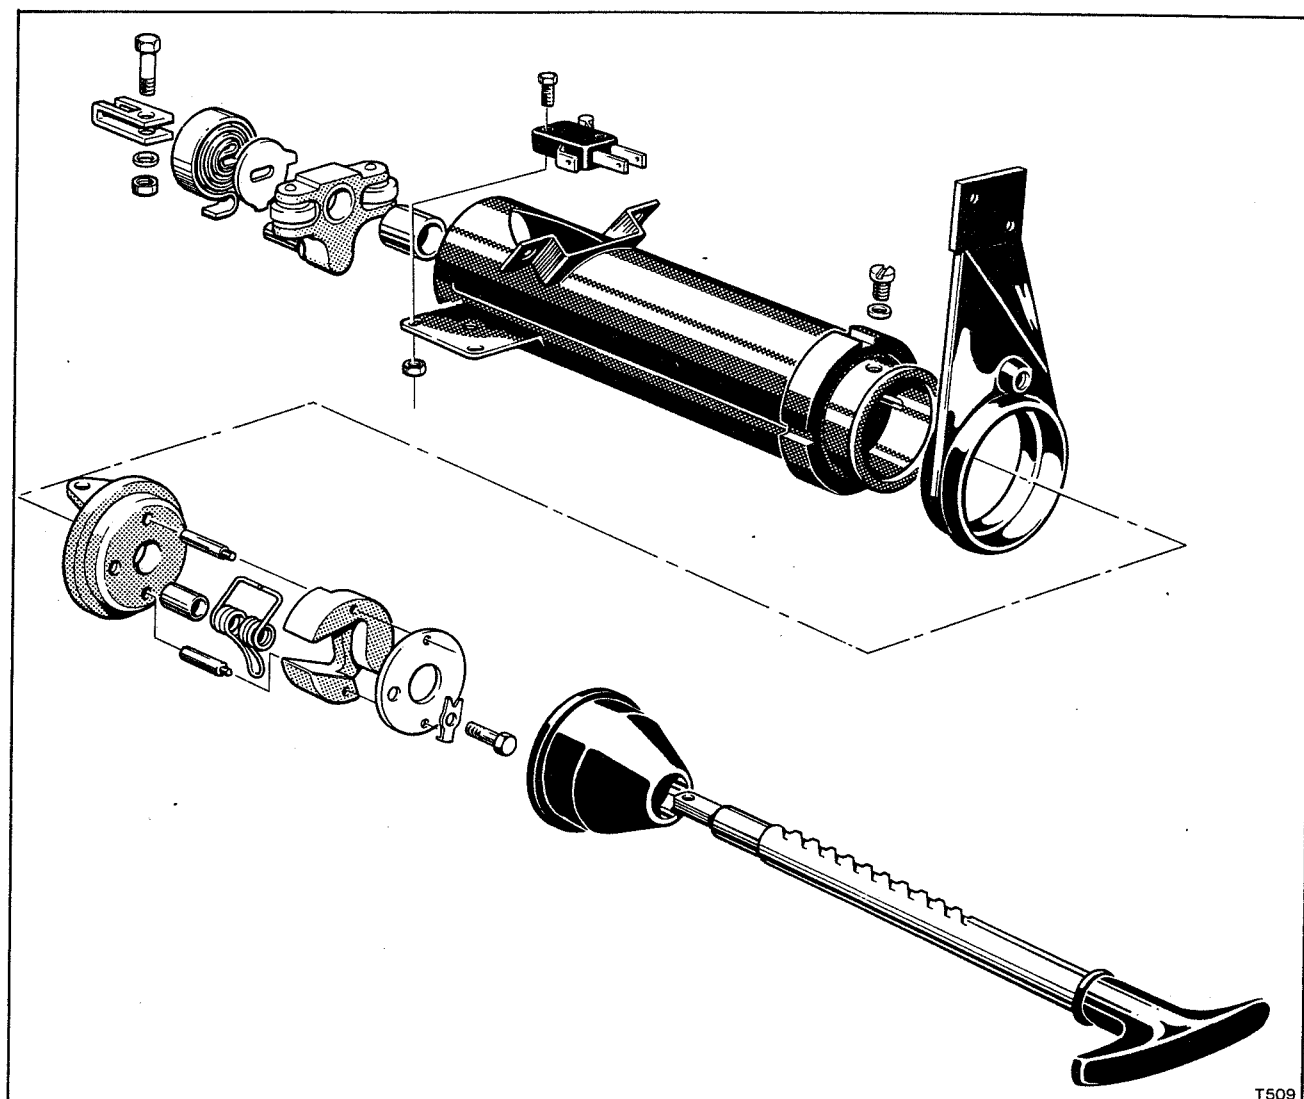

Fig. G38m Parking brake ratchet assembly (Right-hand drive cars)
1. The hand operating rod is spring loaded and must turn in a clockwise direction from the horizontal position to release the ratchet mechanism. For correct operation ensure that the coil spring and stop plate fitted below the roller assembly are located as shown in Figure G38m.